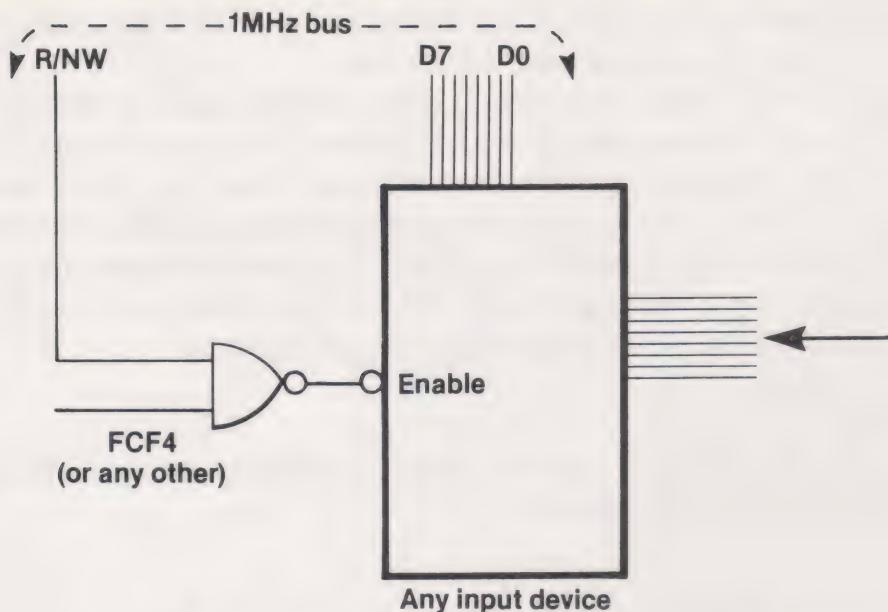

Fig. 1.9. Gating the READ/WRITE line to input devices.
Up to this point, the devices described have all delivered outputs, from the computer to the outside world. However, many systems may include one or more input devices passing data from the outside world to the computer. One obvious example is an analogue to digital converter. There are two dangers inherent in the design of input devices. The first is obvious: make sure that the voltages coming from the outside world are *within the allowed maximum* (usually within the range 0 V to 5 V). The second danger is more obscure. If an input device is enabled, it normally places data on the address bus. Thus the instruction should READ from the data bus (an LDA for example). But if, by mistake, we WRITE (an STA, for example) there is a conflict of loyalties on the data bus because two independent sets of data are trying to gain control. This could damage some of the circuits. The remedy is either to become an infallible programmer (we have never yet met one) or incorporate something on the lines shown in Fig. 1.9.
In Fig. 1.9, a NAND gate is fed by the R/NW line and the decoded device address. The output from the gate is logic 0 only if both inputs are logic 1. Therefore, even if the device address is correct (FCF4 in the example) the R/NW line must be logic 1 which is present only if the instruction is to READ. If, in error, the programmer causes a WRITE action, the R/NW line is turned to logic 0 and the NAND output rises to logic 1. Because the device in Fig. 1.9 has a bubble at the enable input, the input device is not enabled. Thus, it is now impossible to jam the data bus by trying to *write to an input device*. If the device had no enable bubble (and some of them haven't), it would be necessary to include an inverter in the NAND output line. This latter point illustrates how easy it is to be 'one inversion out' when designing logic systems. You can never be just a little bit out (as in analogue design). It is either dead right or dead wrong!
22. Devices which deliver data from the outside world (input devices) should be gated with the read/write line (R/NW) in case a WRITE instruction is given in error (see Fig. 1.9).